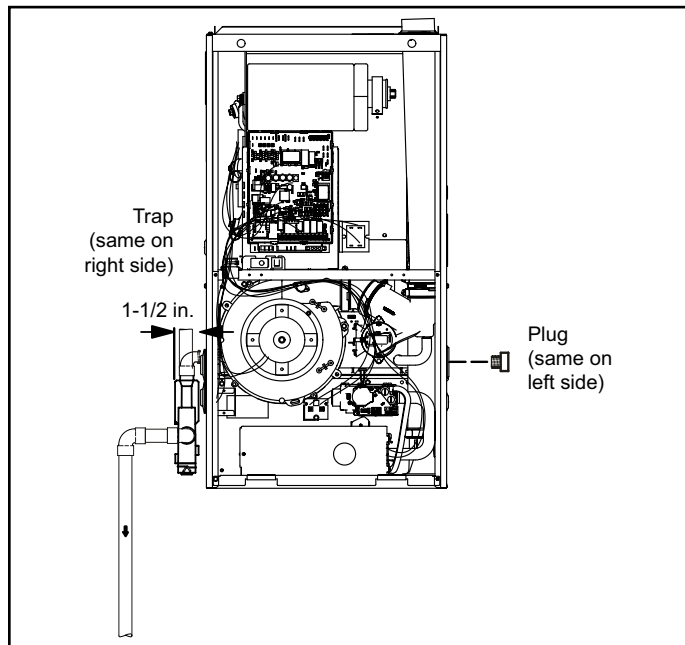

Figure 43. Condensate Trap and Plug Locations
This unit is designed for either right or left side exit of condensate piping in downflow applications. Refer to Figure 43 for condensate trap locations.
2. Use a large flat head screw driver or a 1/2" drive socket extension and remove plug (Figure 43) from the cold end header box at the appropriate location on the side of the unit. Install provided 3/4 NPT street elbow fitting into cold end header box. Use Teflon tape or appropriate pipe dope.